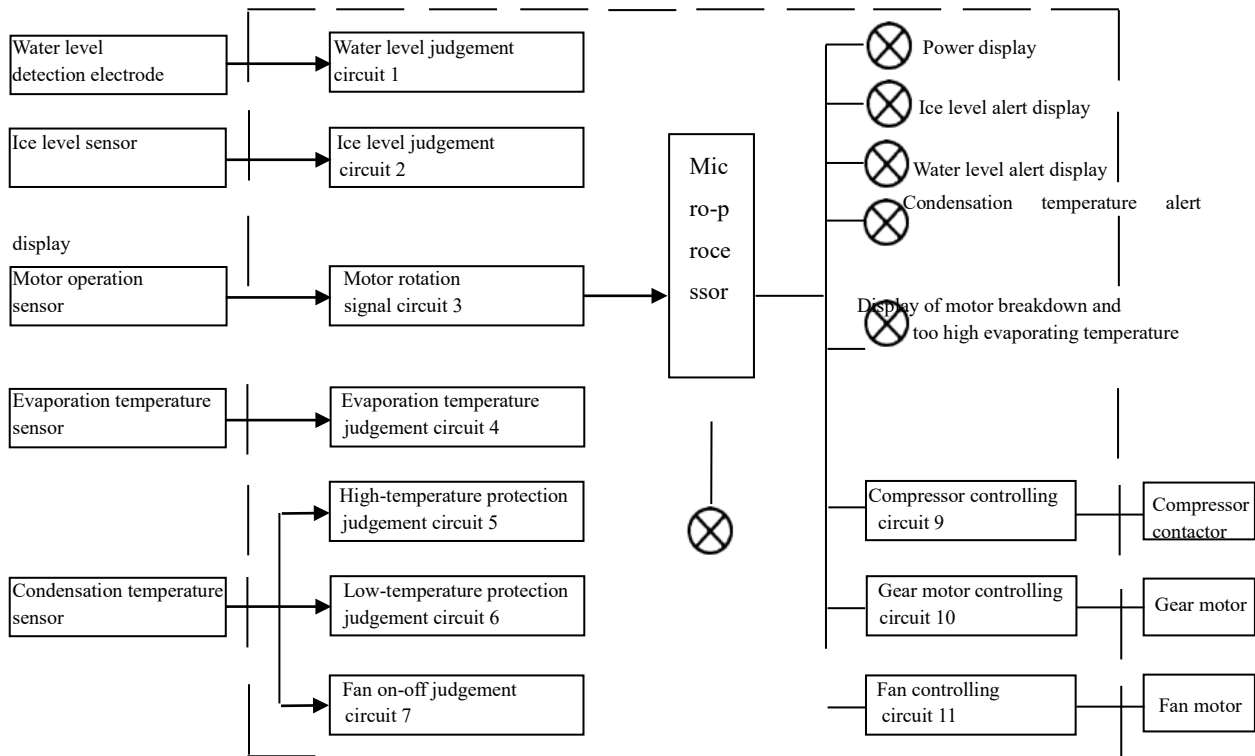

Figure 7
5. P.C. Board Controlling System (please refer to figure 7)